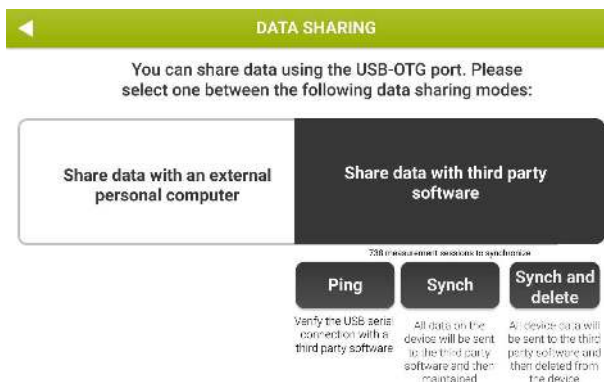

Figure 21 - Options available for sharing data with 3rd party software
1. Select **Sharing Data with third party software** (Figure 21)
3. After reboot, go to the same screen (Admin → Data Sharing → USB-OTG); three more buttons are now displayed: **Ping**, **Sync** and **Sync and Delete** (Figure 21)